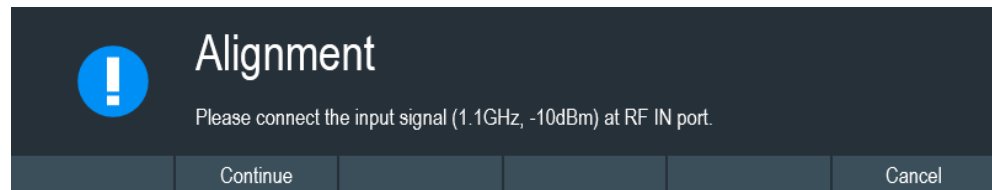

Figure 4-3: Input signal for frequency clock alignment
- Select "Yes" to overwrite existing default alignment data and proceed to perform alignment. The R&S Cable Rider ZPH displays the "Alignment" dialog. Depending on the selected alignment item, different input signal is required. See Figure 4-3 and Figure 4-4.